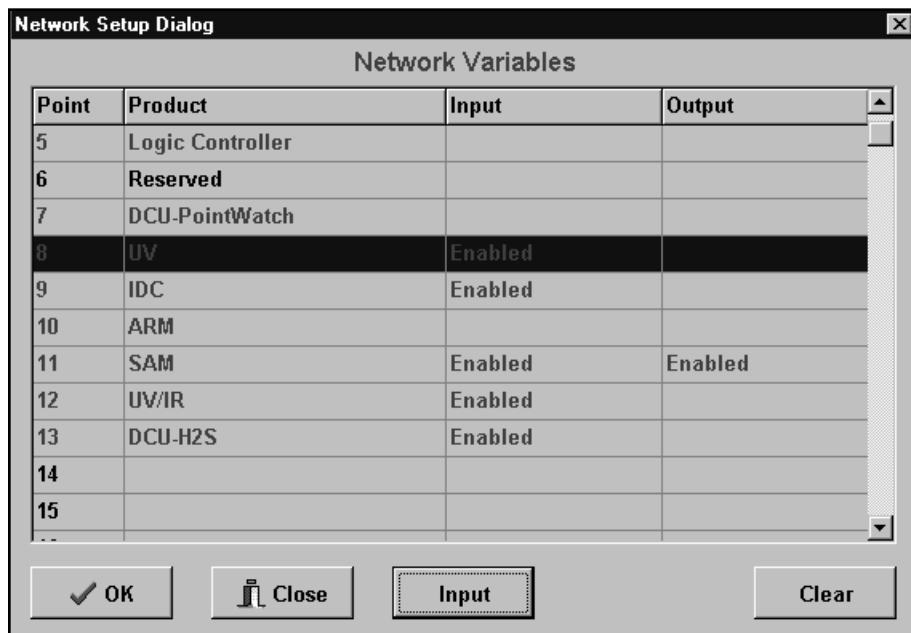

FIGURE V-16
1. Click on the Network Setup button. The Network Variables screen is displayed. See Figure V-16.